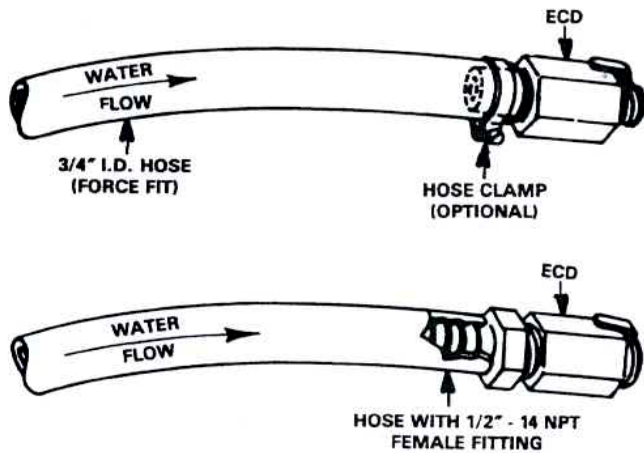

Figure 5
1. Attach drain or breather to a clean water line with threaded end facing upstream (see Figure 5).